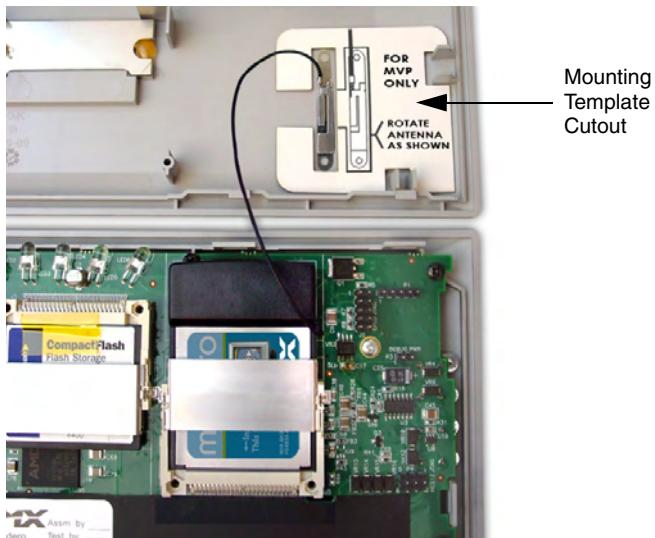

FIG. 4 Adhering the antenna plate to the MVP outer housing
- Locate the **T**-shaped opening on the left of the cutout and make sure the antenna wire is located along the left side of the cutout (FIG. 4).